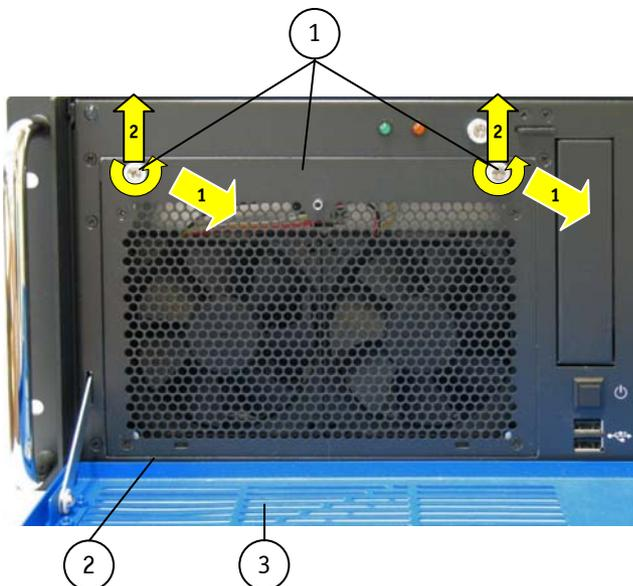
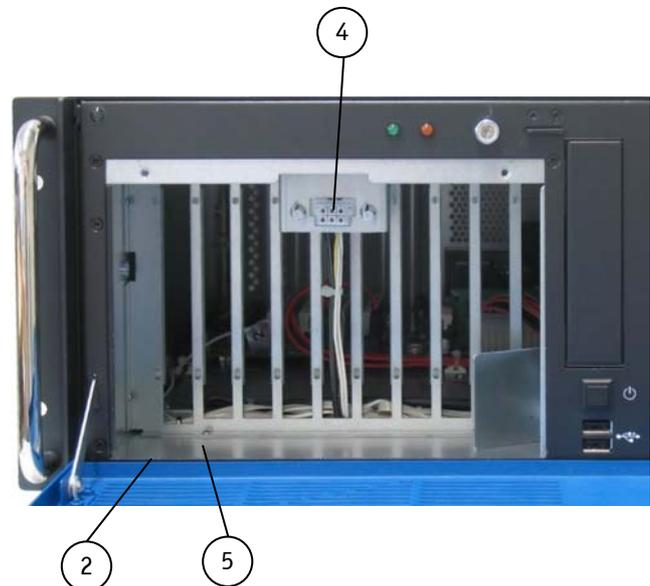
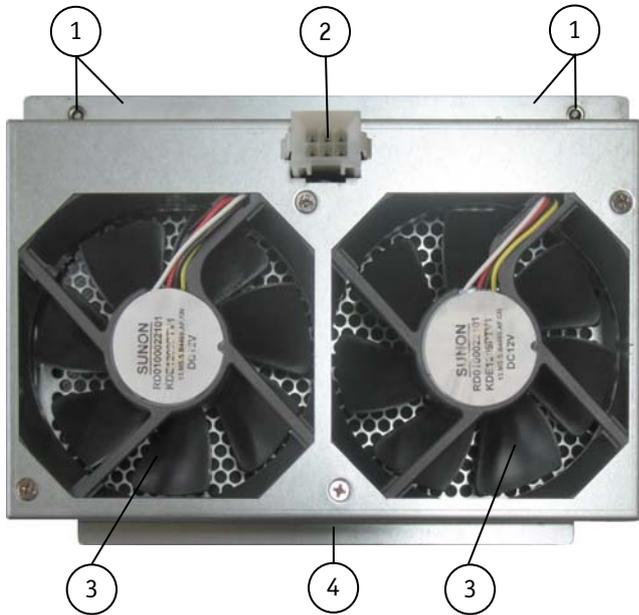
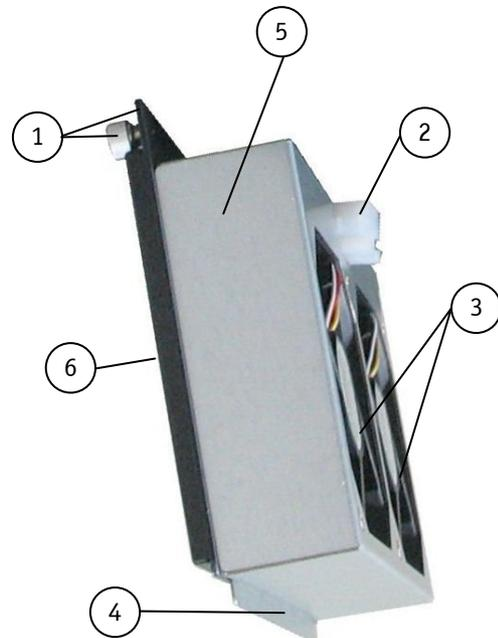

Fig. 45: Detail: Fan slide-in module without filter mat holder
Fig. 46: Detail: Fan compartment (without fan slide-in module)
Fig. 47: Inner sider of the fan slide-in module
Fig. 48: Fan slide-in module with inserted filter mat
2. Loosen the two knurled screws of the fan slide-in module (Fig. 45, pos 1)
3. Pull the fan slide-in module out of the cabinet using the knurled screws to disconnect it from the internal fan control socket (Fig. 46, pos. 4).
4. Lift the fan slide-in module as shown (Fig. 45, pos. 2) out of the fan compartment (see Fig. 46).
**Legend for Fig. 45 and Fig. 46:**
6. Install the filter mat holder (put aside in step 1) with the filter mat to the front side of the fan slide-in module, as described in chapter 10.1 "Cleaning the Filter Mat" (step 7 and step 8; see also Fig. 48).
7. Insert the positioning plate (Fig. 47 and Fig. 48, pos. 4) into the fan compartment (Fig. 46, pos. 5) behind the fixing plate (Fig. 45 and Fig. 46, pos. 2).
8. After the positioning plate (Fig. 47 and Fig. 48, pos. 4) is properly inserted into the fan compartment, push the upper part of the fan slide-in module into the fan compartment until the fan control connector (Fig. 47, pos. 2) is firmly inserted into the socket (Fig. 46, pos. 4).